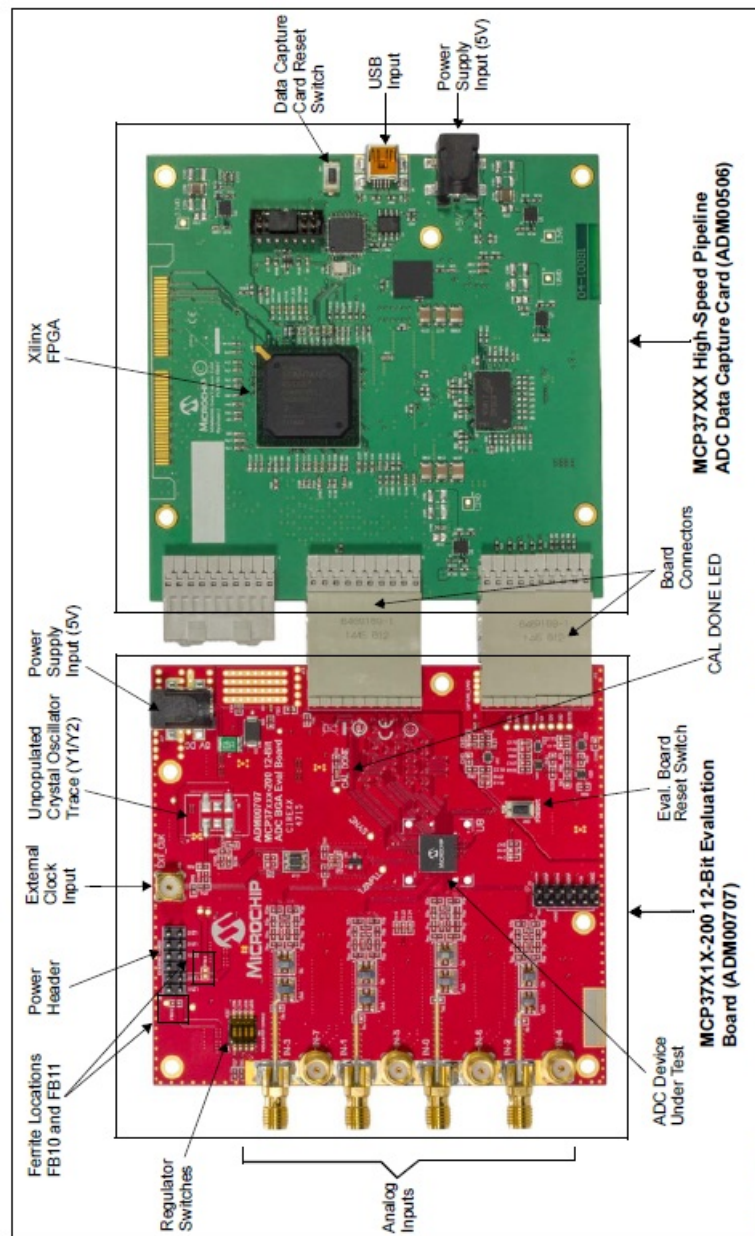

FIGURE 2-1: Evaluation Kit - The evaluation board connected to the data capture card.
This evaluation kit comes with two switching power supplies (Mean Well: GS06U-1P1J): one for each of the boards. These power supplies are able to provide a 5V, 1A maximum output. They can be connected to an AC wall outlet rated between 90V AC and 264V AC, at a frequency of 47 Hz to 63 Hz. The other end of the power supply is a 2.1 mm barrel plug that connects to both the evaluation board and the data capture card (see Figure 2-1). If the user chooses to connect a different external power supply, a minimum output of 750 mA is required. The evaluation board's power supplies can also be supplied by external voltages directly to the power domains. This can be done by disabling the desired regulator using the dip switch SW2 – Regulator Enable on the silkscreen. Then, a DC voltage can be driven directly into the appropriate pin of header J16. Note that the even pins of the J16 header are GND. The power domains on the evaluation board may be merged if needed. Specifically, the 1.2VA and 1.2VD power domains may be merged by populating a ferrite bead on FB10. Similarly, the 1.8VA and 1.8VD power domains may be merged by populating a ferrite bead on FB11. In both cases, the digital regulators should be disabled using the appropriate switches.
1. Connect the evaluation board and the data capture card as shown in Figures 2-1.
- Microchip's ADM00725 or ADM00791 evaluation boards may be connected to the external clock SMA input (See Figure 2-1). These boards were developed as an optimized clock source for Microchip's High-Speed ADCs. For more information, refer to the board web page.